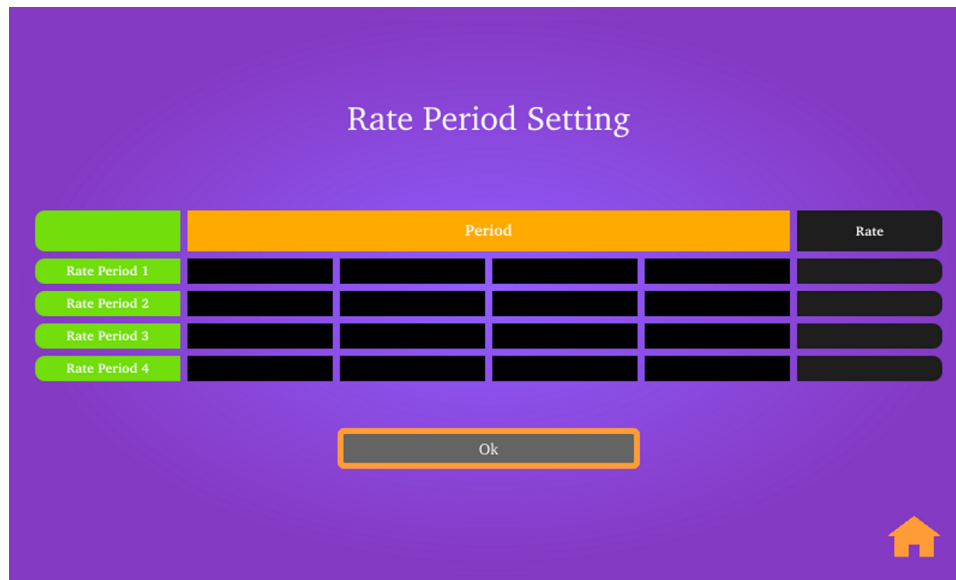

图 11. EVSE HMI Demonstration GUI—Rate Period Setting Screen (Page Three)
6. 图 11 shows page three of the GUI.